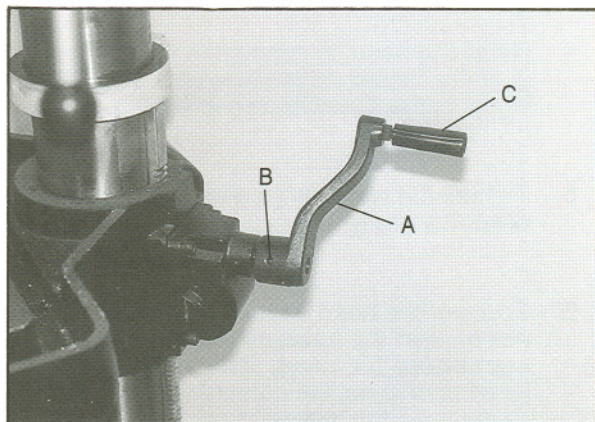

Fig. 1
1. Slide crank (A, Fig. 1) onto the table raising assembly shaft.
2. Tighten the set screw (B, Fig. 1) to hold the crank in place.
3. Install the handle (C, Fig. 1) onto the crank.